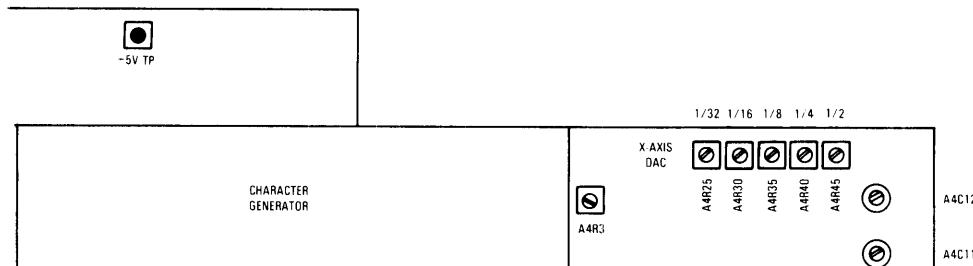

Figure 5-1. +5 V Test Point Location on Display Board
- Connect the (+) input of DVM to +5 V test point on Display Board. Connect (-) input of DVM to GND (figure 5-1).